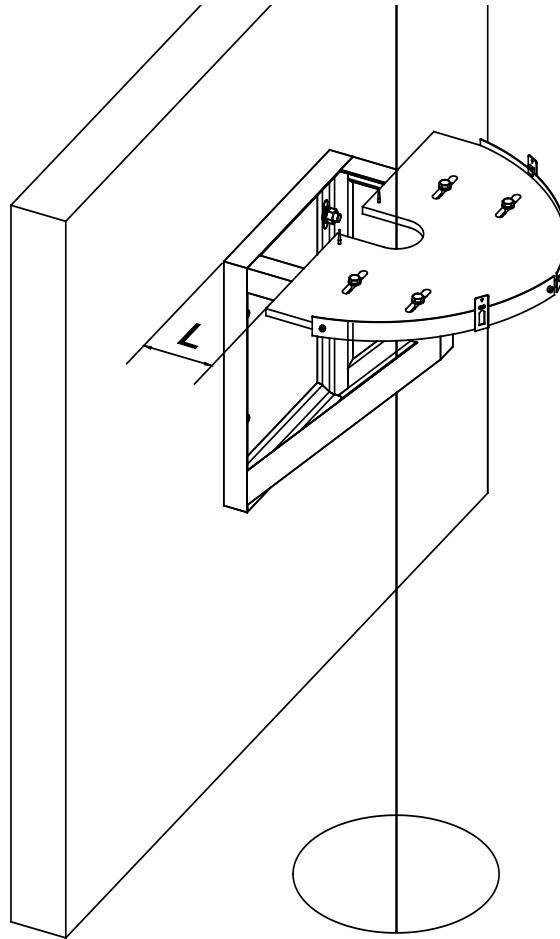
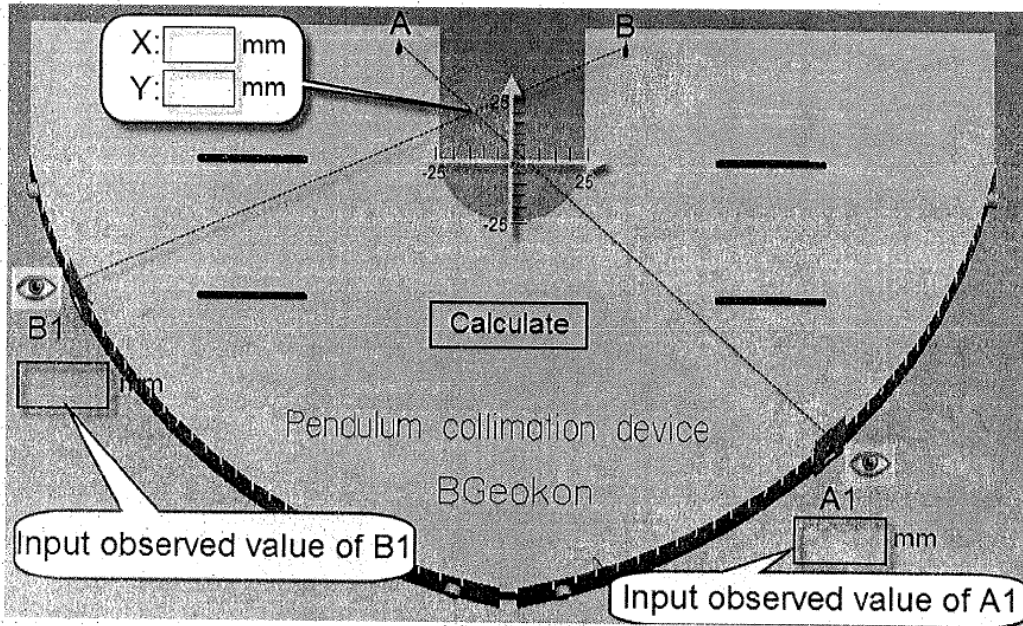

Figure 4 - Schematic Drawing for Wall Mounting
Figure 6 - Showing the Collimation Process
Dimension L in Figure 4 is the distance from the straight side of the base plate to the wall. Generally, L, the distance from the plumb wire to the wall = 70 mm
- 2) Referring to Figure 6, move the right sliding sight (A1) so that when looking through the hole in the sight, the pendulum wire lines up with the left front sight (A). Read and record the reading on the steel rule to the nearest millimeter.
- 3) Repeat Step 2 for the left sliding sight (B1), aligning it with the pendulum wire and the front right sight (B). Read and record the steel rule reading to the nearest millimeter.
- 4) The calculation of the X and Y coordinates is done by software loaded as an app onto an Android smart phone. The software can be downloaded off the Geokon website. Selecting the App brings up the screenshot shown in Figure 4. Using the touch screen, enter the values of A1 and A2 in millimeters and then touch the 'calculate' icon whereupon the X and Y coordinates appear in the center of the screen.